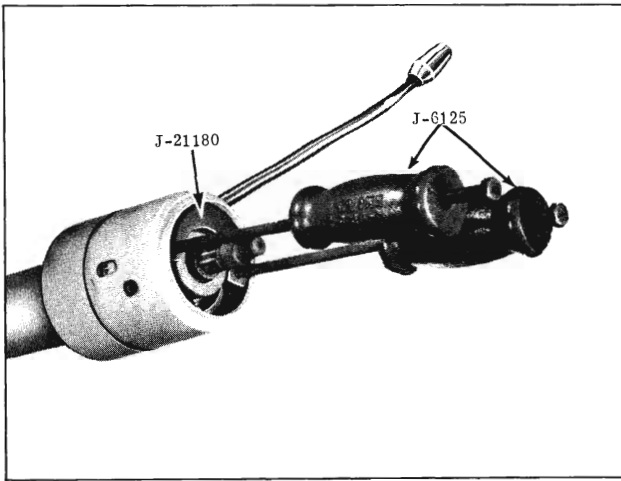

Fig. 4-84 Removing Turn Signal Cover
2. Remove the turn signal cover. (Fig. 4-84)